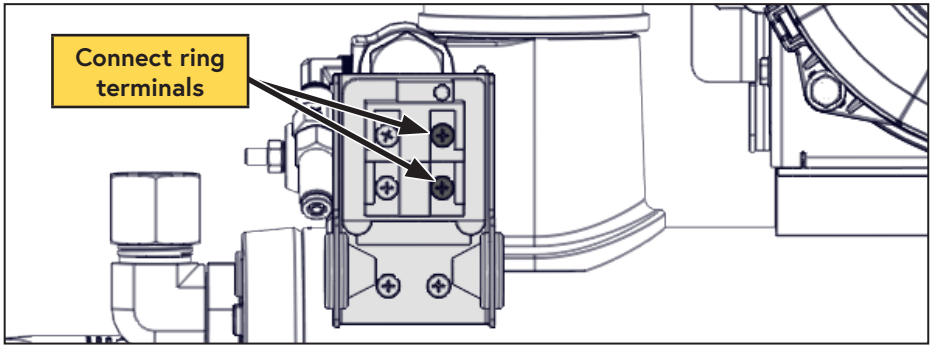

Figure 44 — Connect pressure switch
- Remove the cover from the WHASP Tank pressure switch and connect the 2 ring terminals from the control module to the pressure switch on the WHASP Tank (not polarity dependent) (Figure 44).